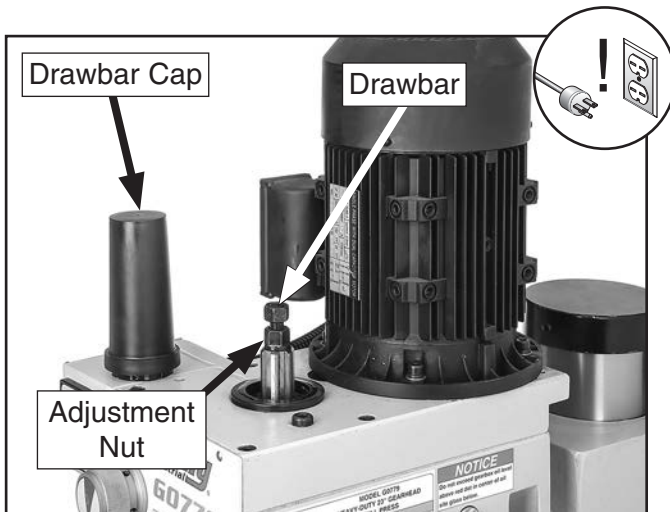

Figure 19. Drawbar components used when installing/removing tooling.
2. Remove drawbar cap, as shown in **Figure 19**.
Note: Height of drawbar inside spindle can be changed by rotating adjustment nut (see **Figure 19**).